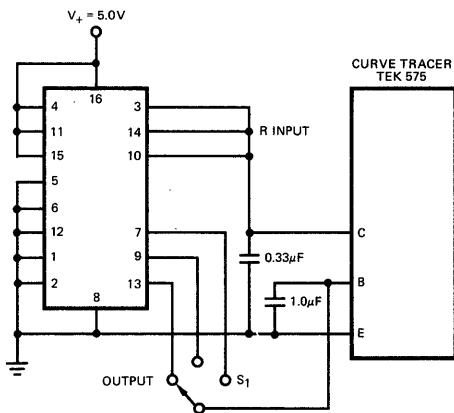

Fig. 1
Verify in each of three (3) positions of S_1 (Fig. 1) that the following occurs per Fig. 2.